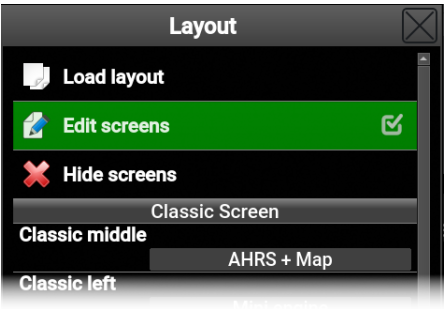

Figure 82: Option that must be enabled before screen editing.
- 2. Check the Edit screens options, see Figure 82.